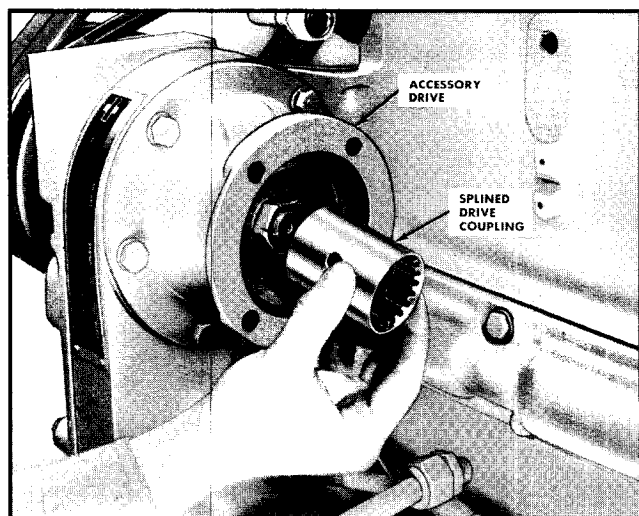

Fig. 4-17. Installing splined coupling
1. Assemble splined coupling to compressor. Fig. 4-17. Assemble air compressor to accessory drive using a new gasket. Install and tighten the four capscrews and lockwashers.